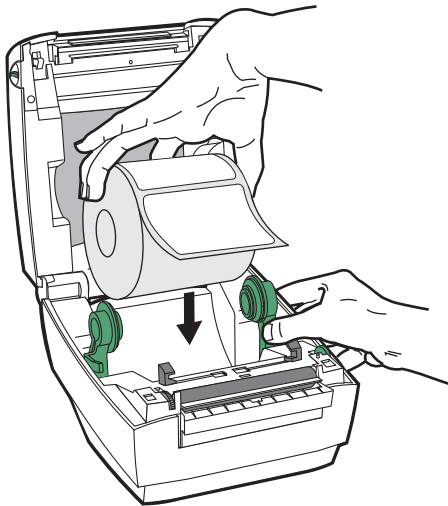

Figure 10
3. Place the media roll onto the media hangers, making sure it is tightly wound (refer to Figure 10).